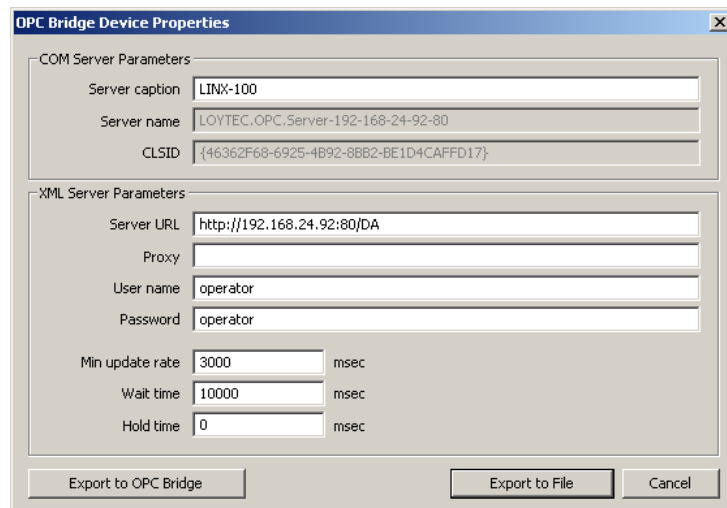

Figure 201: Bridge Export dialog.
4. In the **OPC Bridge Device Properties** dialog as shown in Figure 201, add information which is not default, i.e., Min update rate, Wait time and Hold Time (see Section 9.3.6). If the operator user has a non-default password, enter the password.